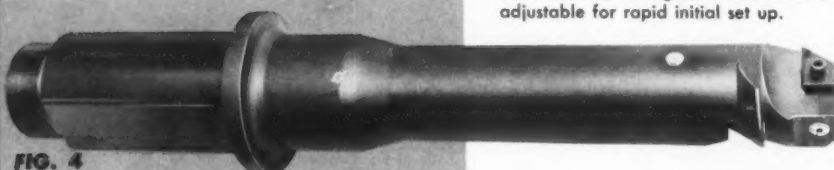

FIG. 4
**FIG. 4**—There are two opposed triangular Wessonmetal throw-away tips on this tracer-controlled Multicut boring bar. They profile bore the entire complex ID of a turbine part. One tip cuts going in. The other cuts coming out. Both are micro-adjustable for rapid initial set up.